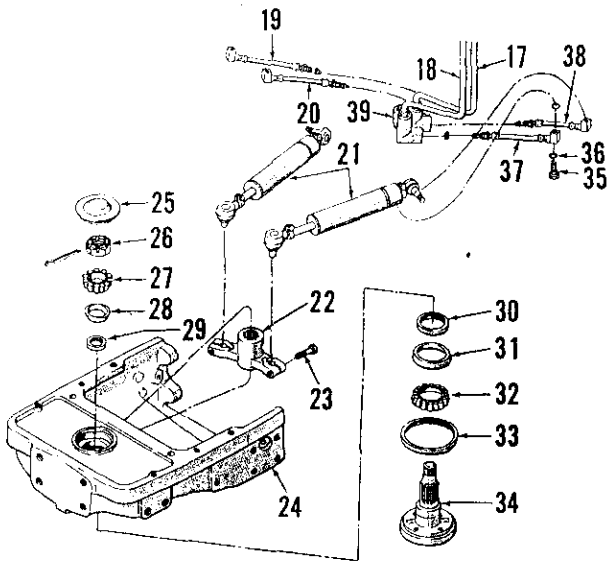

Fig. 43—Exploded view of model 4200 pedestal, steering shaft and steering cylinders. Fluid lines (17 and 18) lead to "Hydramotor" steering unit.
To renew pivot pins and bushings, proceed as follows: Remove steering arm (8) from steering shaft (34—Fig. 43). Support front end of tractor so as to take weight from pivot pins and support front axle radius rod to keep unit from tipping. Remove retainers (1 and 6—Fig. 40) from front pivot pin and remove bolt (15) from rear pivot pin. Remove both pivot pins, raise tractor to clear front axle and roll the unit forward. Remove bushings (2 and 14) and carefully install new bushings. Bushings are final sized and should not require reaming if not distorted during installation. Renew thrust washers (12) and pivot pins if worn and reassemble by reversing removal procedure.
46. R&R FRONT AXLE ASSEMBLY. To remove the wide front axle assembly as a unit, proceed as follows: Straighten tabs of locking plate (7—Fig. 40) and remove the two cap screws retaining center steering arm (8) to steering shaft (34—Fig. 43). Support front of tractor, unbolt the front (4)
50. Refer to Figs. 41 and 42 for exploded views of the single and dual front spindle assemblies. Either unit can be bolted to the steering shaft (34—Fig. 43). Single wheel spindle must be installed with offset to left side of tractor as shown in Fig. 41 and dual
51. **R&R FRONT PEDESTAL ASSEMBLY.** First, drain cooling system, then remove engine hood and radiator grille assembly. Disconnect radiator hoses and remove radiator from pedestal. Remove covers from top of pedestal and disconnect power steering lines (17 and 18—Fig. 43) from manifold (39). Support front end of tractor and remove wide front axle assembly as outlined in paragraph 52, or if a tricycle model, unbolt and remove the spindle and wheel assembly from steering shaft. Attach a hoist to front support, then unbolt and remove front support from engine cylinder block and oil pan. Note: Be careful not to lose or damage shims, if any, located on front support to oil pan bolts.
Remove the nuts from power cylinder rear end assemblies and bump rear ends of cylinders from front support. Remove the cap screws (23—Fig. 43) clamping cylinder front end assemblies in steering shaft arm (22) and remove cylinder from arm. Unbolt manifold (39) from pedestal and lift out manifold, lines and cylinders as a unit.